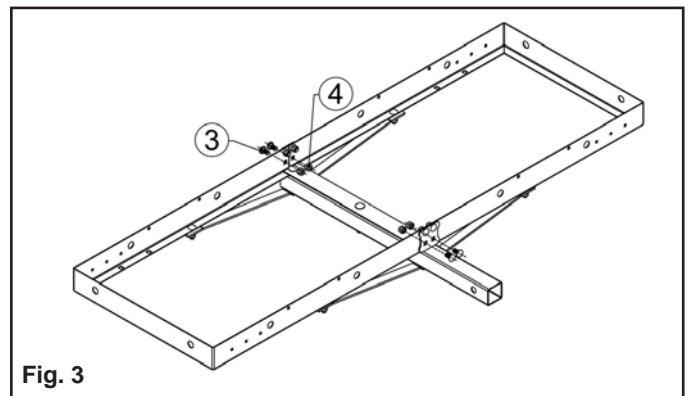

Fig. 3
7. **Figure 3:** Thread the remaining four (4) M10x20 carriage bolts (part# 3) through the bottom holes of the frame halves near each end of the tie plate, securing them with the remaining M10 lock nuts.